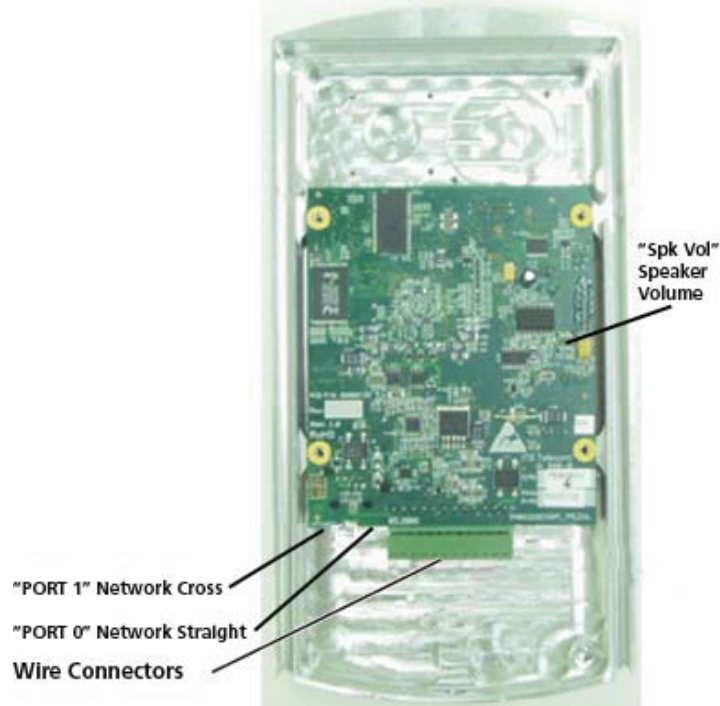
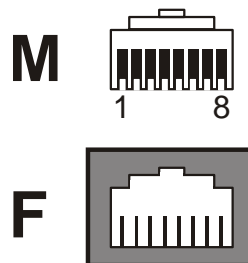

Figure 5-2. Unit Connectors
Figure 5-3. RJ-45 Connector
When holding the unit as displayed in Figure 5-2, the first pin from the right is the first ~12V pin.
- c. Connect the Ethernet cable to the RJ-45 "PORT 0" straight LAN socket (Figure 5-2 and Figure 5-3) by means to program the unit using the Web-based GUI (see Section 7).